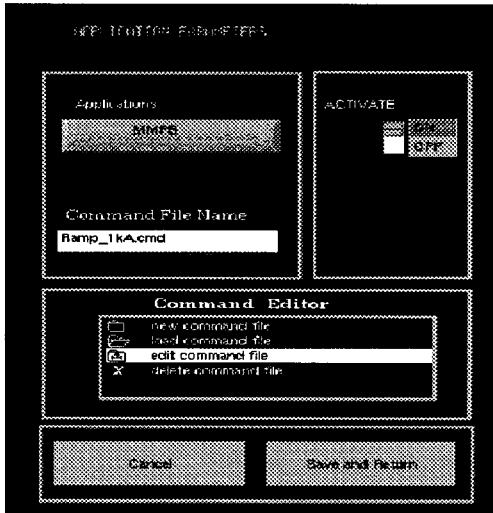

Fig. 14. Application parameter subpanel
- Click the mouse on the icon of the hardware (application) to be added. This operation will initiate the corresponding application parameter sub panel for the selected hardware (applications) as shown in Fig.14.